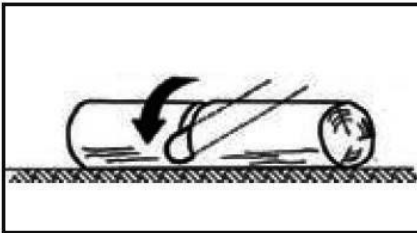

Fig. 4A
- **Log supported along entire length:** cut from top (overbuck), being careful to avoid cutting into the ground (Fig. 4A).